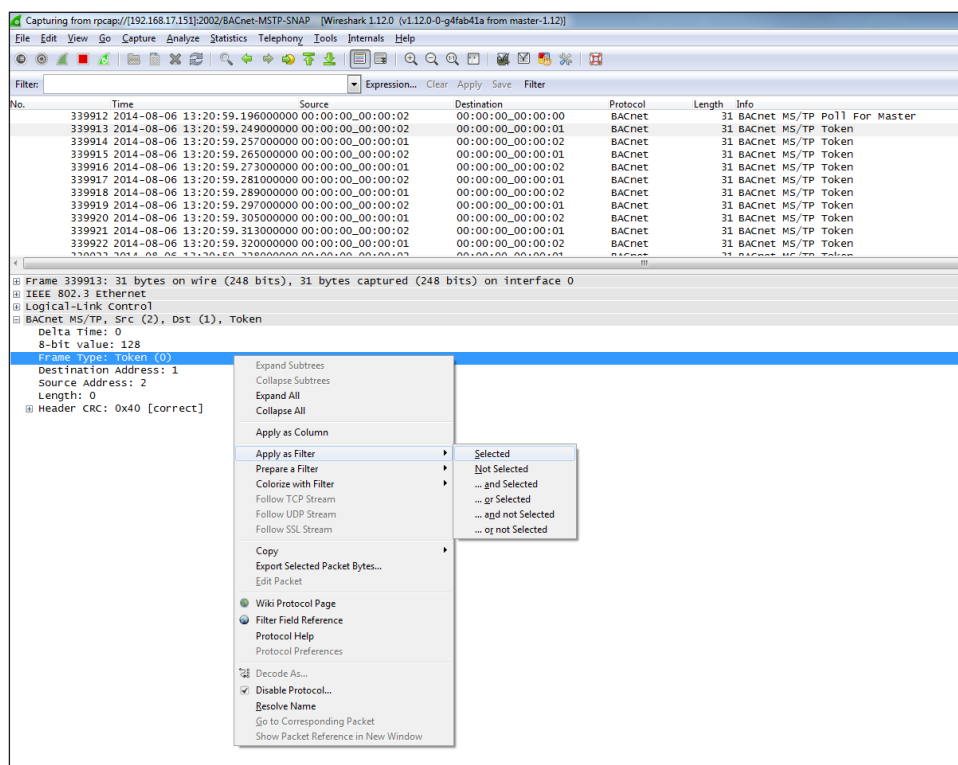

Fig. 4: Filter rules in Wireshark
Thereby, the flood of displayed data packets can be significantly reduced. To further filter individual packet types, Wireshark offers other convenient functions: If a packet is selected in the list, the packet information is shown in detail according to the protocol layer, in the underlying view. In this example, the BACnet MS/TP information is of interest for us. If you are only interested in BACnet data packets, the tokens need to be deactivated. For this purpose, select a BACnet MS/TP token packet in order to view the details. In expanding the BACnet MS/TP information, the row “Frame Type:Token (0)” is revealed. To hide this packet type, select the row and open the context menu with a right mouse click. The menu item “Apply as Filter -> Selected” automatically generates an appropriate filter rule for hiding this packet type (Figure 4). To apply further filter rules to the remaining packets, additional rules can be defined in exactly the same way via the menu item “Apply as Filter -> and Selected”.